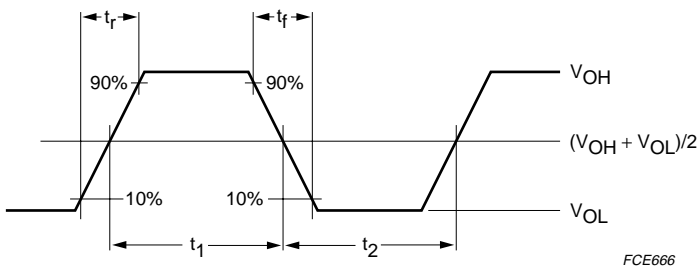

Fig.9 Definition of output transition times.
2. The transition times and duty factor definitions are shown in Fig.9;  $\delta = \frac{t_1}{t_1 + t_2}$